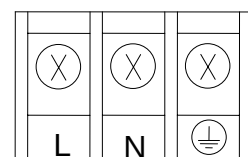

Fig. 4.1.3 Power source Terminal block
- (1) Put your fingers on the left and right (both sides) hooks of the transparent protective cover on the power source terminal block. Pushing them inside, pull out the cover toward you.
- (2) Connect the power source electric wire, referring to Fig. 4.1.3. Connect the protective grounding to the  terminal. Connect the non-grounding side of the power source to "L" terminal. Connect the grounding side to the "N" terminal.
- (3) Attach the transparent protective cover.
- (4) Make sure that protective grounding is properly done.